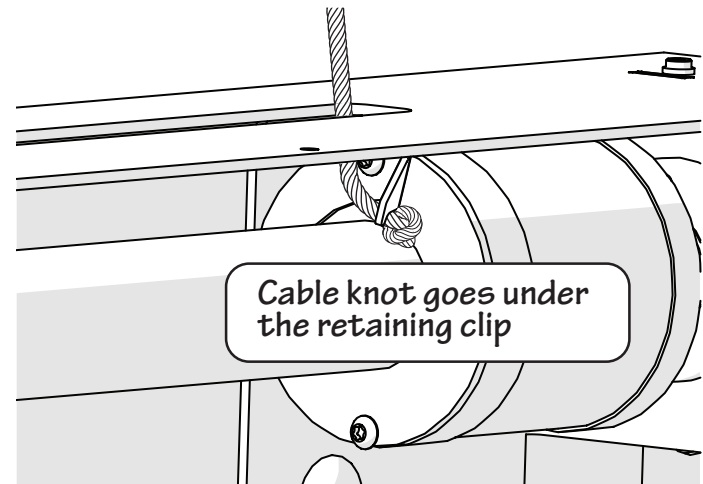

Fig. 15-3
- Using your fingers, guide the knotted cable end through the bottom of the cable retaining clip located on the right side of the cable spool. See Fig 15-3.